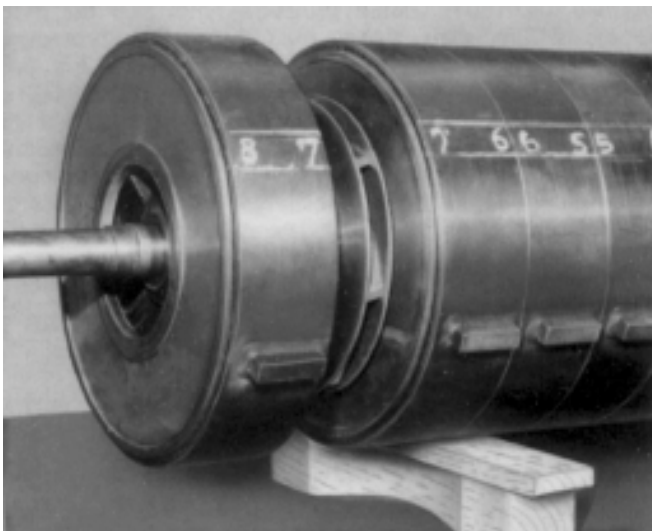

Fig. 52 Mounting the stage casing.
4. Mount stage casing (108) together with inserted diffuser (171.1) and flat gasket (400.2), and slip stage sleeve (521) onto the shaft. (see Fig. 52)